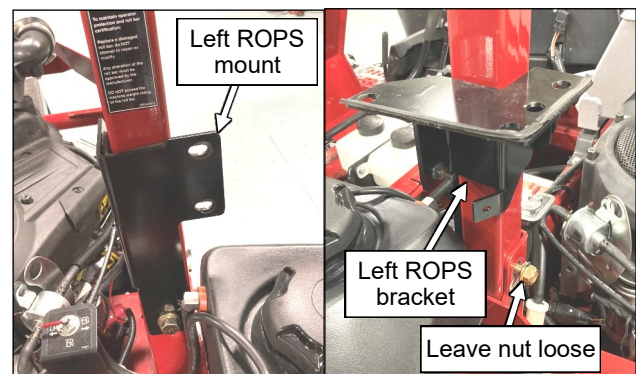

Fig. 3.3 (Install left side ROPS mount)
- 3.3 See fig. 3.3. Repeat steps 3.1 and 3.2 for the left side ROPS mount and bracket, using the longer 1/2" bolt from the hardware kit. Install the nut loosely onto the bolt at this time. The longer bolt will be used to help secure the A/C compressor bracket.